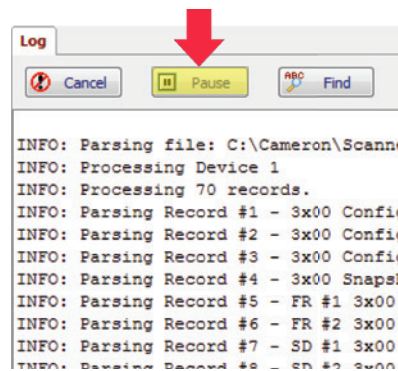

Figure 1.6—Pause button (Log tab)
1. Click the **Pause** button (Figure 1.6) on the Log tab to freeze the current parsing log.